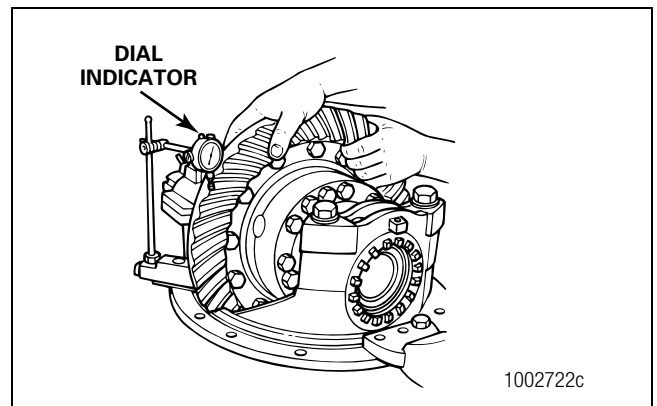

Figure 3.18
2. Install a dial indicator onto the flange of the carrier. Place the tip of the indicator against the drive side of a ring gear tooth. Adjust the dial indicator to ZERO. Figure 3.18.